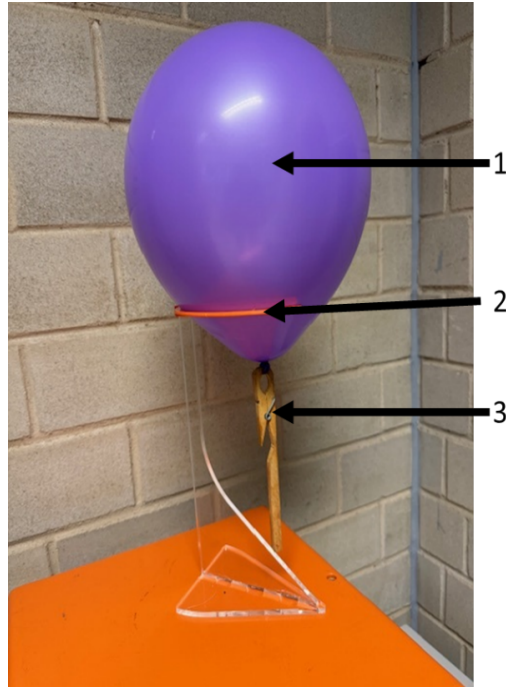

Figure 3.3: 1 = Balloon; 2 = Holder; 3 = Clip
- 4) Once charged, place the inflated balloon on the provided holder. To stabilize the position of the balloon, attach the clip to the knot (see Figure 3.3).